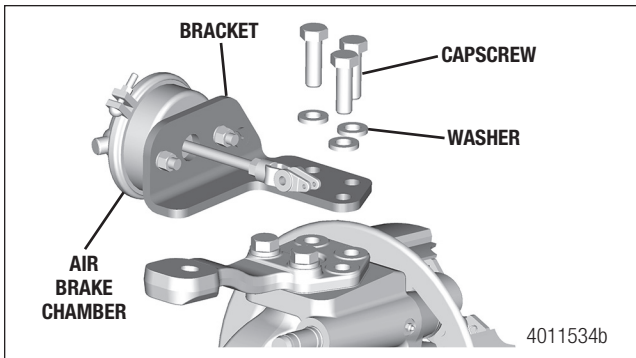

Figure 8.33
1. Install the air brake chamber and bracket. Tighten the bracket mounting capscrews to specification. Refer to Section 12 Specifications on page 77. Figure 8.33.